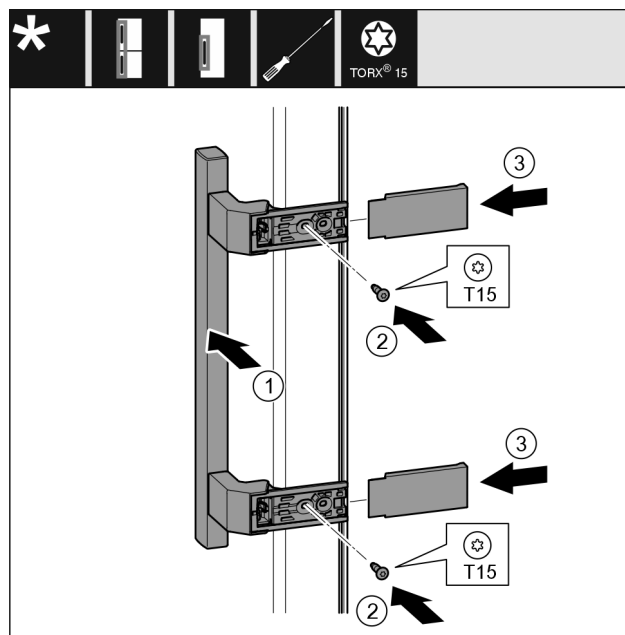

Fig. 55
- Place the handle Fig. 55 (1) on the opposite side.
- Tighten screws Fig. 55 (2) with screwdriver.
- Place the covers Fig. 55 (3) on the side and push them on.